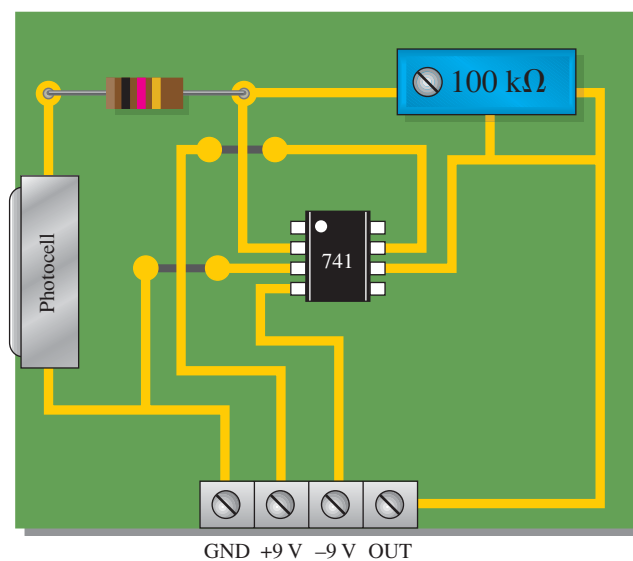

FIGURE SE6-2 Photocell/amplifier PCB layout.
in the solution is identified. The focus of this system example is the photocell/amplifier circuit board. The PCB layout for this circuit is shown in Figure SE6-2.
4. Refer to the pc board in Figure SE6-2, If the 100 k Ω potentiometer is set to the middle, what is the gain?